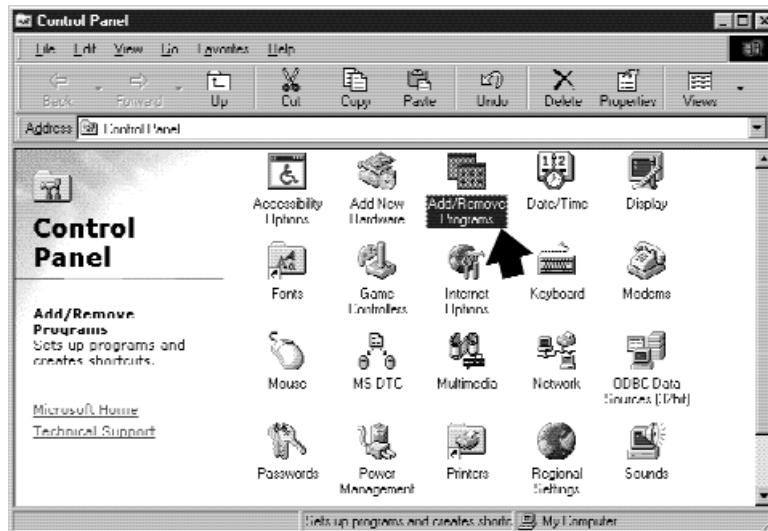

Fig. 73
2. In the Control Panel, double-click **Display** (Fig. 73).